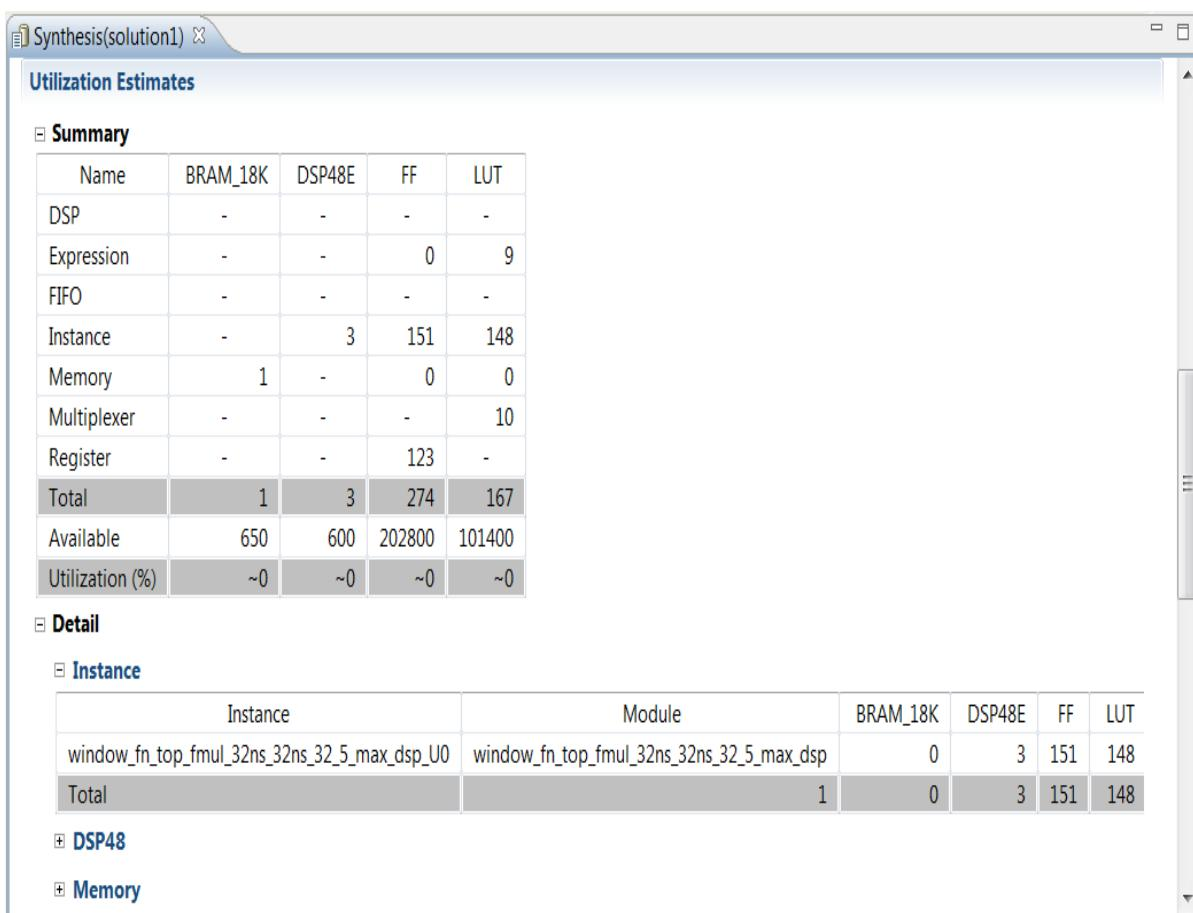

Figure 5-7: Area Details for Floating Point Design
2. Scroll down the report and expand the Instances in the Details section of the Area Estimates (Figure 5-7).